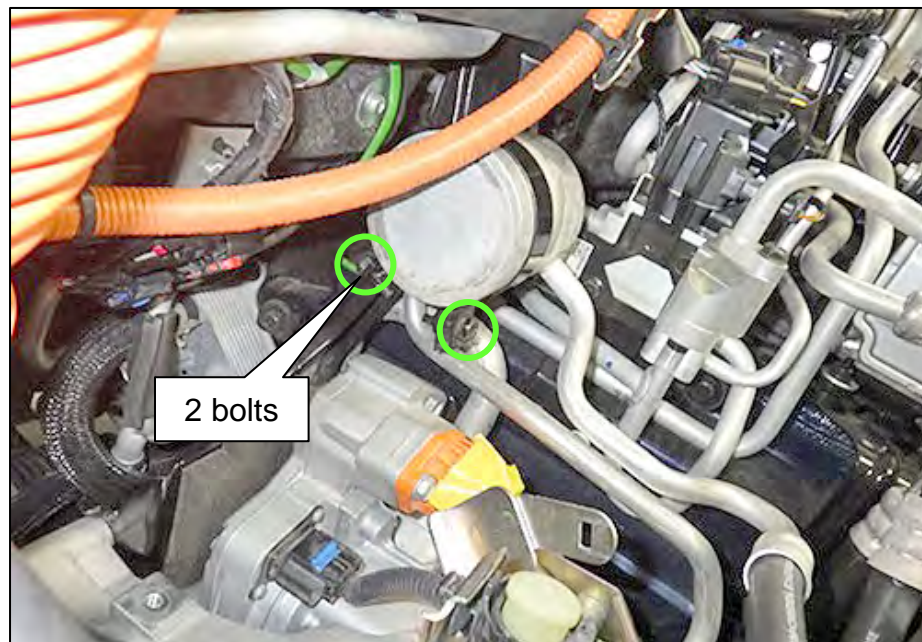

Figure 181
- Two (2) bolts shown in Figure 181.